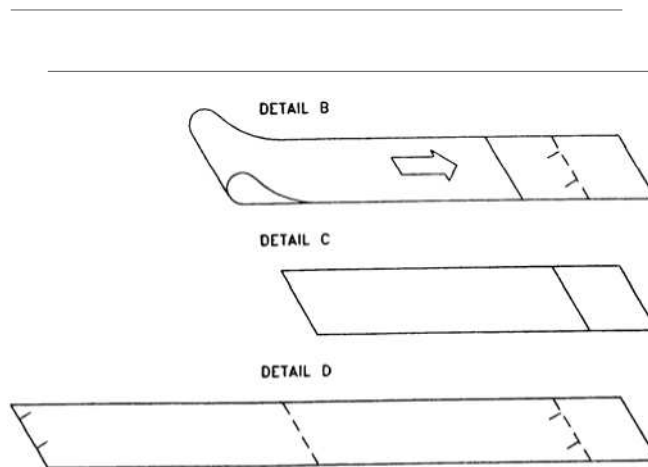

Figure 2.8
2. Mark the intersection of the two ends of the paper to indicate the circumference. Remove the template and spread it out on a flat surface. Fold the template in half, bisecting the circumference. See **Figure 2.8**.